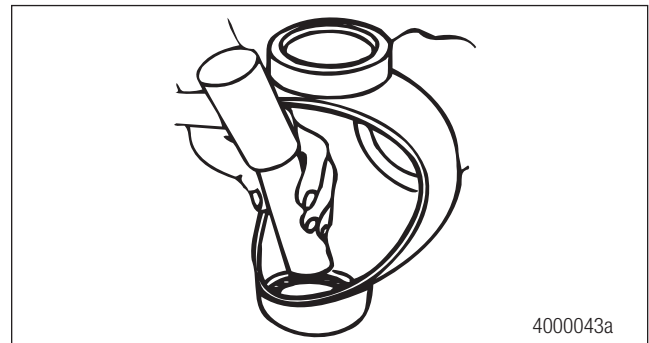

Figure 5.32
- a. Drive the welch plug and bushing toward the outside of the socket. Use a sleeve that is slightly smaller than the socket bore. Figure 5.32.